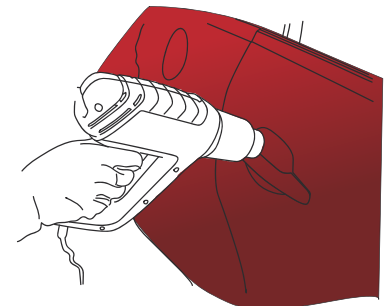

Figure 27
- › Once the application is finished, heat again all the parts which have undergone severe deformation using the heat gun. (FIG. 27)